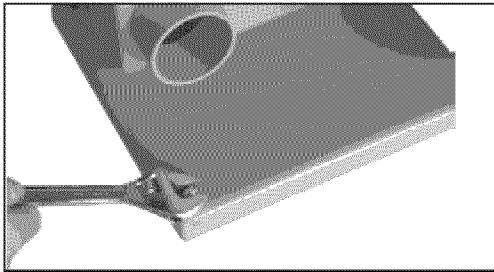

Figure 9 - Stabilize Machine
- To ensure sufficient upright stability of the machine it should be bolted to floor, bench or worktable. For this purpose 6mm holes are provided in the machine's base. Mounting hardware not provided. (see Figure 9).